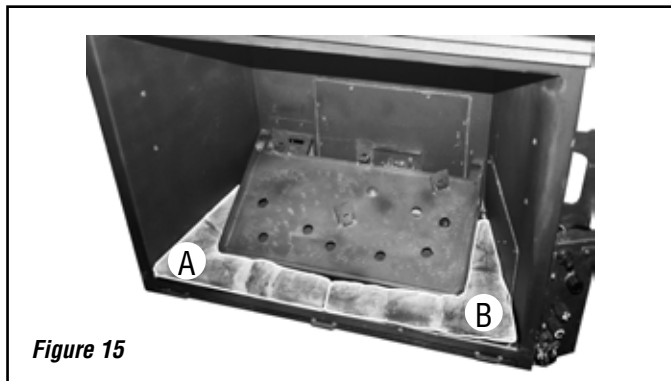

Figure 15
1. Start with the front bottom panels (A and B). Set them in place with detail side up as shown. See **Figure 15**.